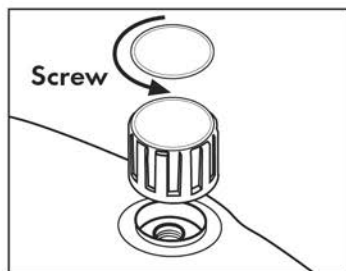

Fig. 16
Wash the boiler using a suitable de-scaling product - it can be ordered from our authorised service centres - and follow the procedure below. Do not use products other than those specifically recommended for cleaning the boiler. Release the pressure in the boiler: switch off the boiler switch (11) and let all the steam out by pressing the steam button (18) on the handle, then turn the main switch to off (10). After the boiler has sufficiently cooled down, disconnect the plug from the socket and open the safety cap slowly (Fig. 16). Disengage the body of the machine (1) from the recovery tank (2)